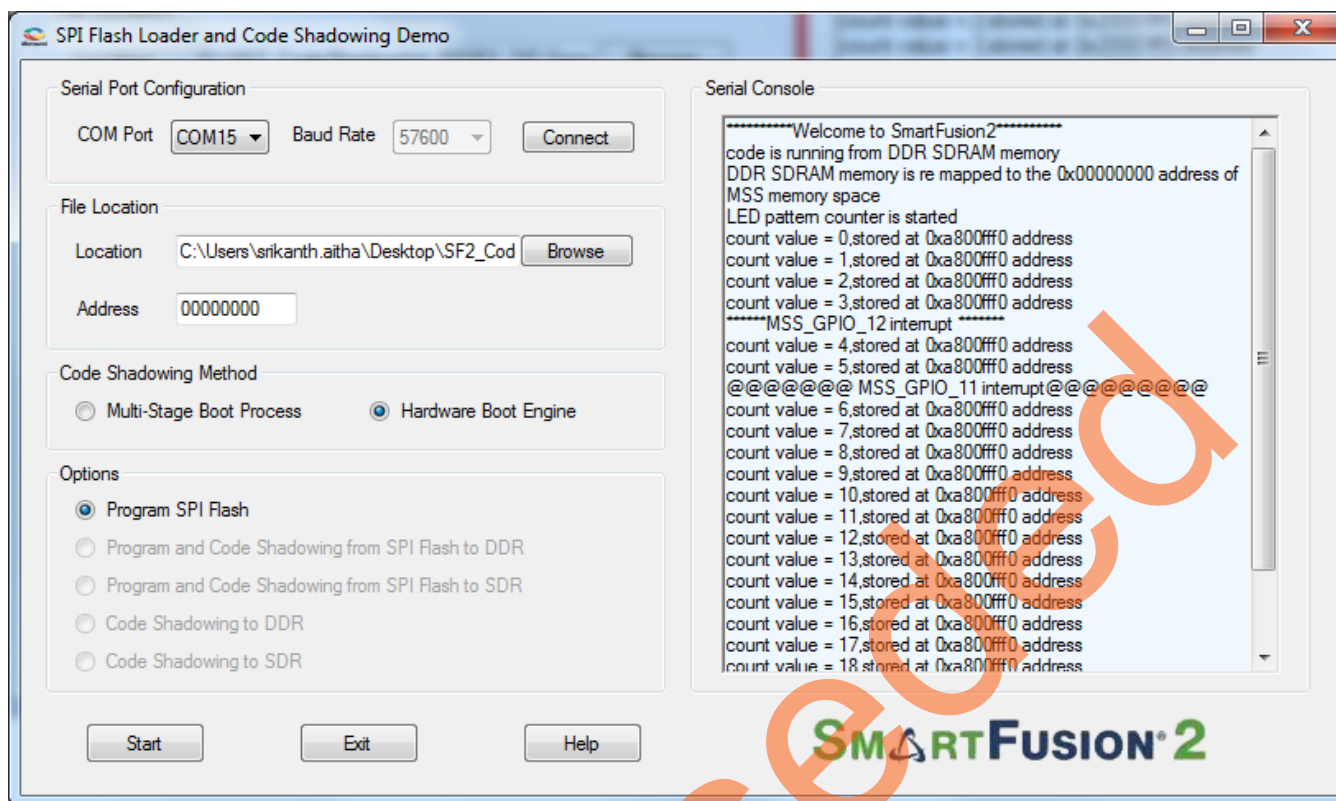

Figure 16. Running the Target Application Image from DDR3 Memory
13. Press **SW9** to reset the SmartFusion2 device. The boot engine copies the application image from SPI flash to the DDR memory and releases reset to Cortex-M3, which boots the application image from DDR memory. If the provided image "sample_image_DDR3.bin" is loaded to SPI flash, the serial console shows the welcome messages, switch interrupt (press **SW2** or **SW5**) and timer interrupt messages as shown in Figure 16 and a running LED pattern is displayed on LED1 to LED8 on the SmartFusion2 SoC FPGA Development Kit.